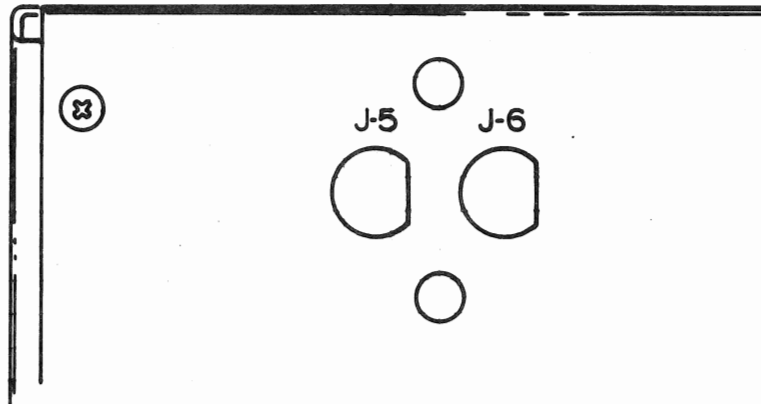

Fig. 5
- ( ) 2. Remove the tape backing from the "J5-J6" identification plate (from kit) and fasten it to the rear plate above the two 1/2 in. "D" holes shown in Fig. 5. Leave about 3/16 in. of metal between holes and identification plate.